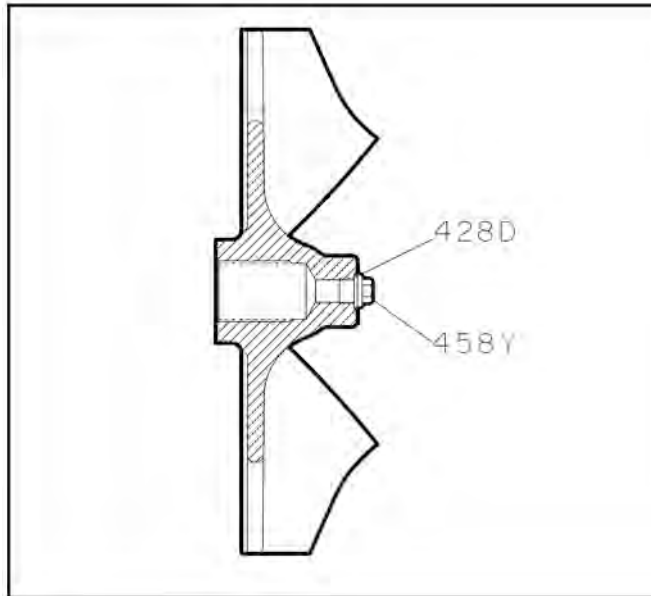

Figure 30:
1. Remove impeller anti-rotation nut (458Y) from front of impeller. (This part will need to be replaced for proper sealing) (Fig. 30).
5. Quickly turn the impeller counterclockwise (viewed from the impeller end of the shaft), impacting the wrench handle until the impeller loosens (Fig. 30).